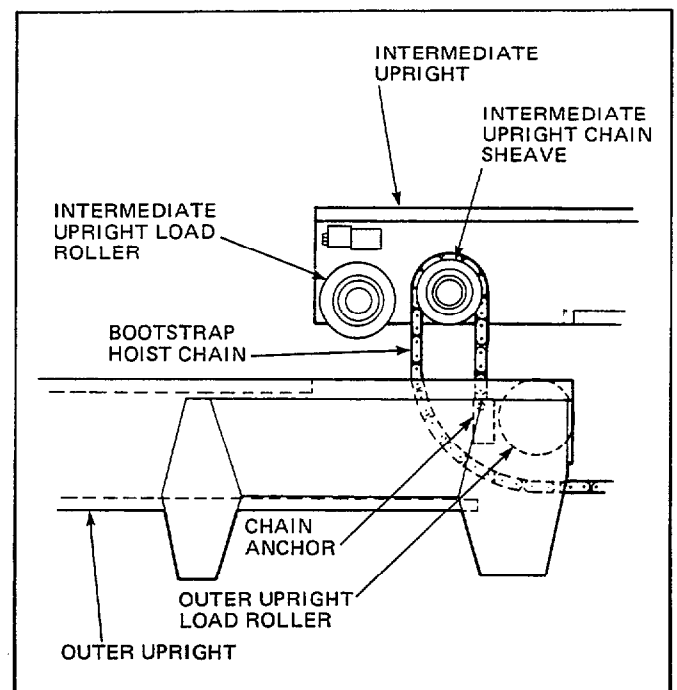

Figure 33. Bootstrap Hoist Chain Routing
- Using a sling and hoist or some other suitable lifting device, lift the intermediate upright out of the outer upright. As soon as the chain sheaves at the bottom of the intermediate upright are clear of the outer upright cutouts, pull the bootstrap hoist chains off the sheaves. See figure 33. Set the intermediate upright on a work surface.